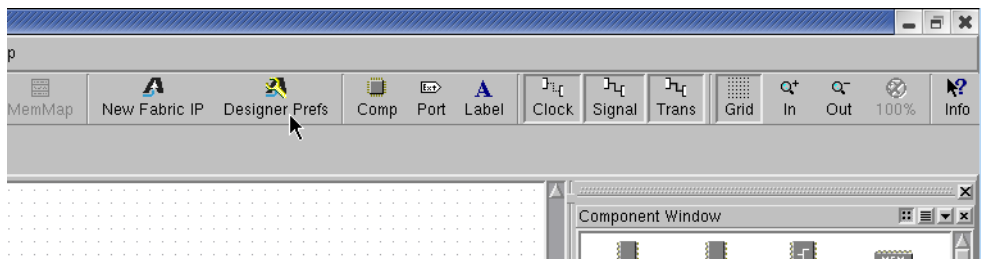

Figure 3-1 Designer Prefs selection
1. Click on the **Designer Prefs** button that is located on the Main Toolbar, as Figure 3-1 shows. This opens the General Preferences dialog box.